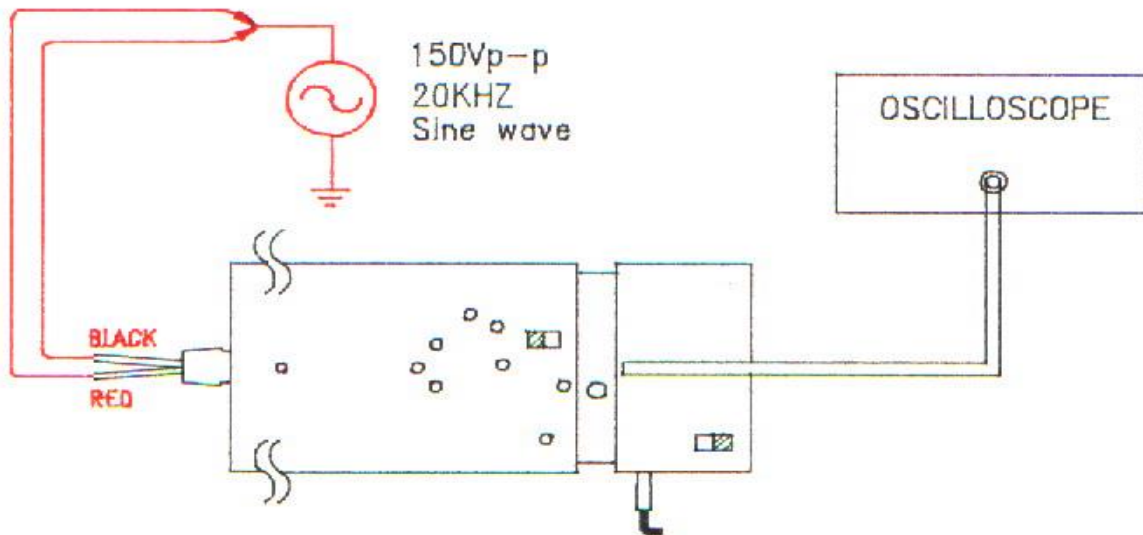

Fig. 11
- a. Referring to Fig. 11, connect output BNC to the oscilloscope has good grounding.